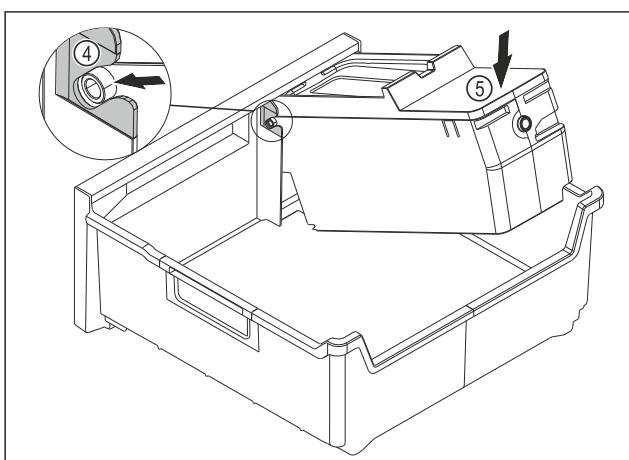

Fig. 169
- Installing the EasyTwist-Ice body: Insert the axes of the EasyTwist-Ice body into the guides Fig. 169 (4).
- Press down the EasyTwist-Ice body Fig. 169 (5) at the rear.